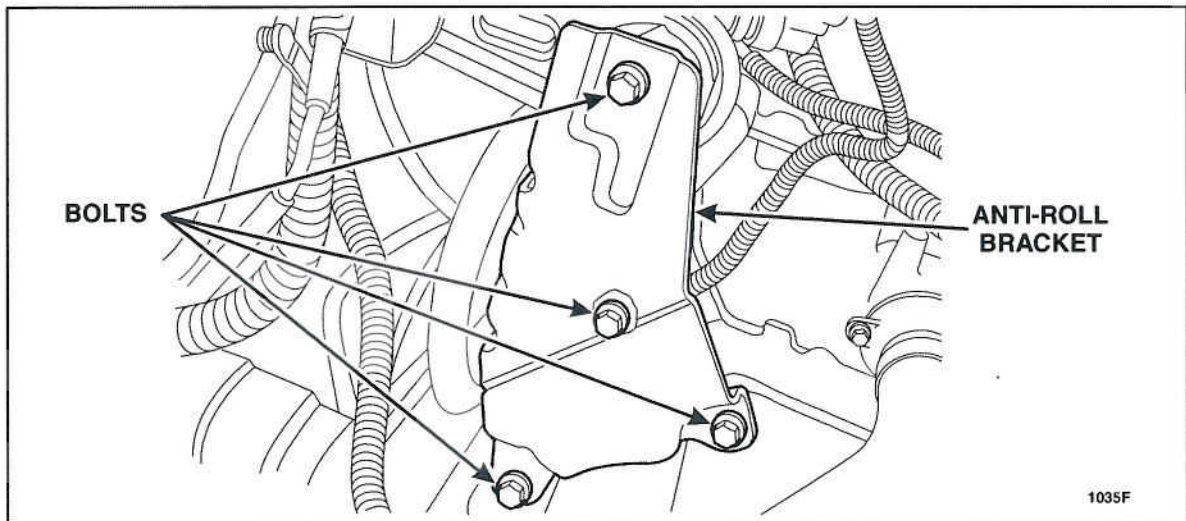

FIGURE 10
19. Remove the bolts and remove the anti-roll bracket. See Figure 10.